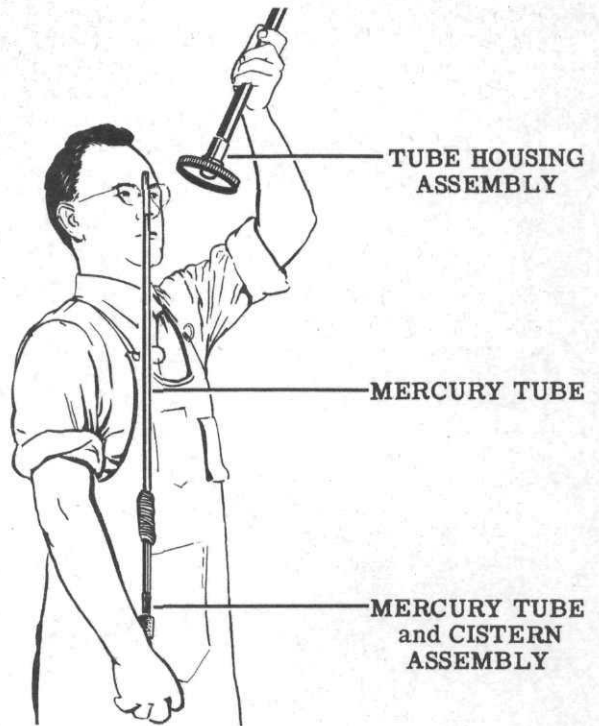
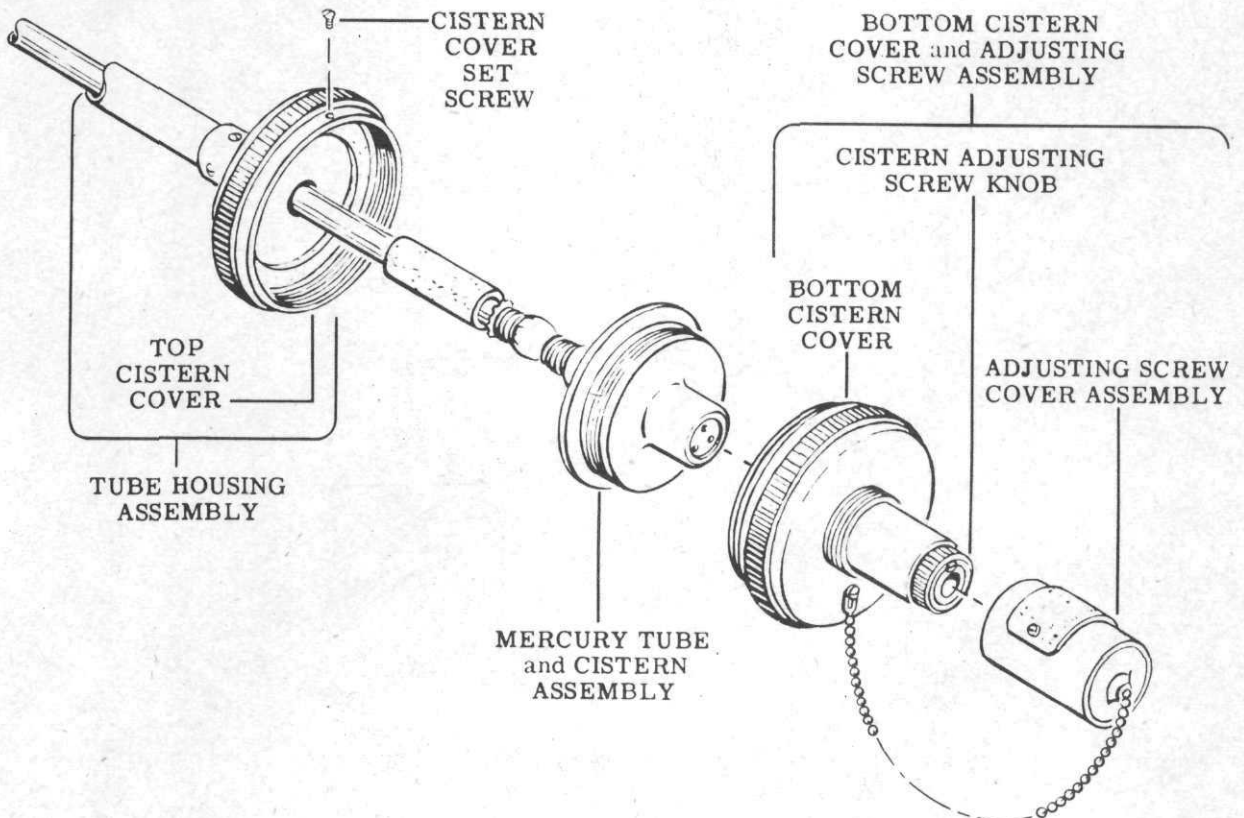

Figure 58
Figure 59
78. Remove the mercury tube and cistern assembly from the cistern clamping fixture (Tool No. 1), or from the mercury tube support rack (Tool No. 3) if it had not been disassembled. Holding the assembly in your right hand, let the tube rest on your chest. See Fig. 58. Refer to the "Special Service Tool List" in Section VIII for details of the special tools mentioned in this operation.
79. Place the bottom cistern cover and adjusting screw assembly under the mercury tube and cistern assembly. The mercury tube and cistern assembly will now be supported in the bottom cistern cover and adjusting screw assembly in your right hand. See the exploded view, Fig. 59.
80. Raise the tube housing assembly in your left hand as high as possible. Then lower it over the mercury tube. Screw up the top and bottom cistern covers for three or four threads. See Fig. 58 and the exploded view, Fig. 59.
knob as far as it will go to the left. Tighten the top and bottom cistern covers and align the reassembly guide marks made during disassembly on the front of each cover. Assemble the cistern cover set screw. See the exploded view, Fig. 59.
85. Rotate the cistern adjusting screw knob to bring the mercury column to the top of the mercury tube. Assemble the adjusting screw cover assembly. See the exploded view, Fig. 59.